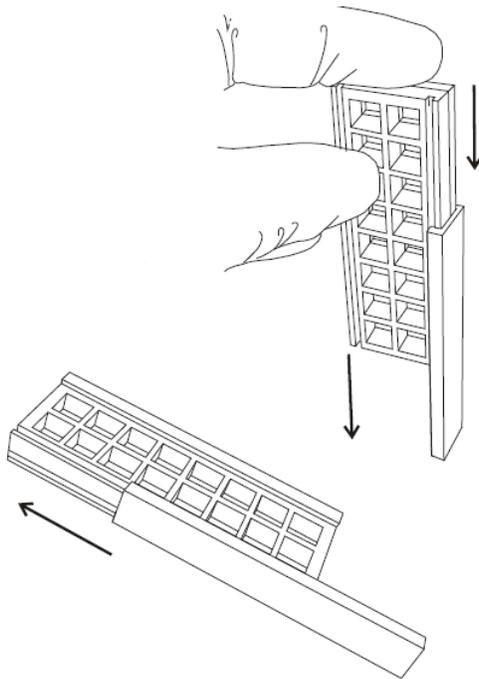

Figure 5
5. Slide the clip until the end is flush with the end of the assembly as shown in Figure 5. Clips may be pressed against the bench top to facilitate application. Repeat this for the second clip.